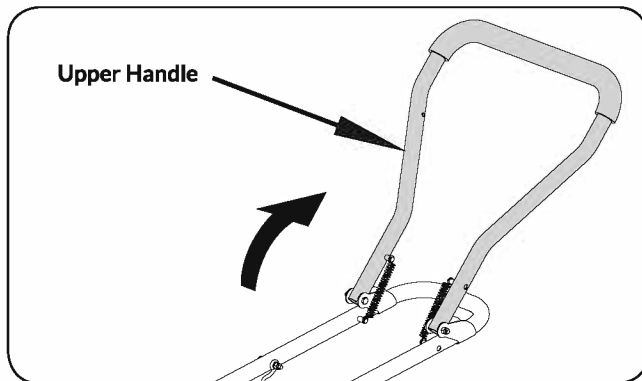

Figure 2a
1. Unfold the handle. (See **Figure 2a**)